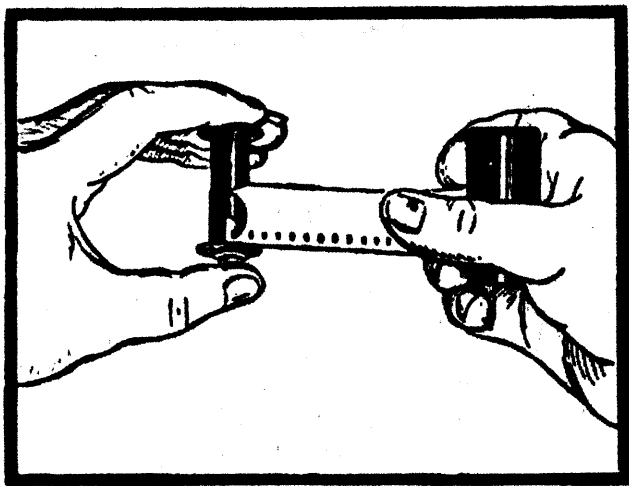

Fig. 9.
2. Having pulled not more than 10 cm of the loose end of the film out of the magazine, fasten it on the take-up spool under the spring (see Fig. 9) so that the first perforated opening of the film should be a little farther than the lug of the spring and pull the film backwards — the lug of the spring will get into the opening and hold the film. Set the lower